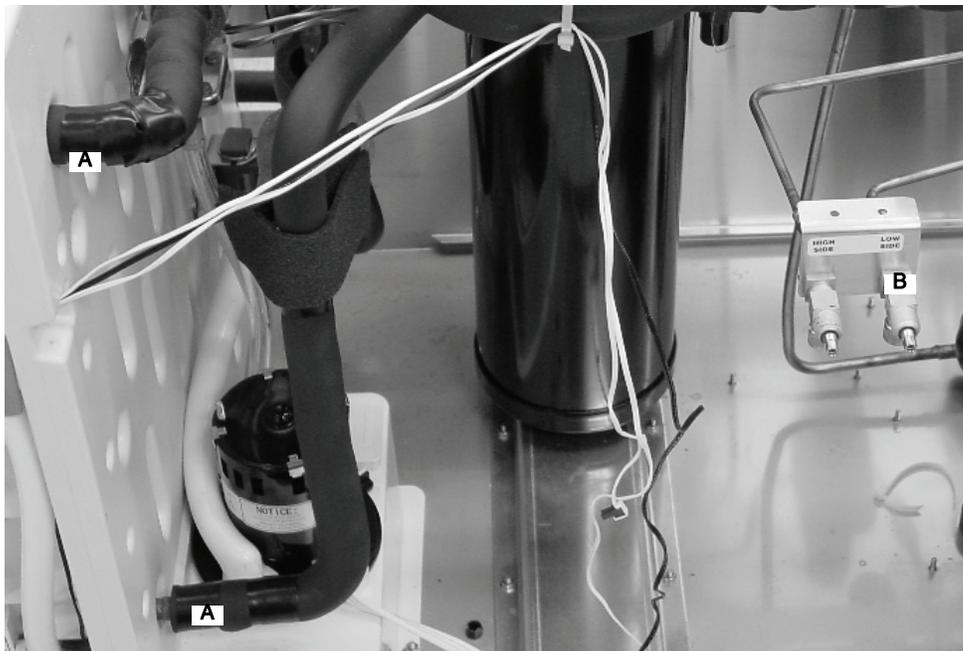

Figure 21.
Remove the insulation from the evaporator inlet and outlet lines (FIGURE 21).
Attach a nitrogen feed (B) to the low side service valve (5-10 psi) (FIGURE 21).